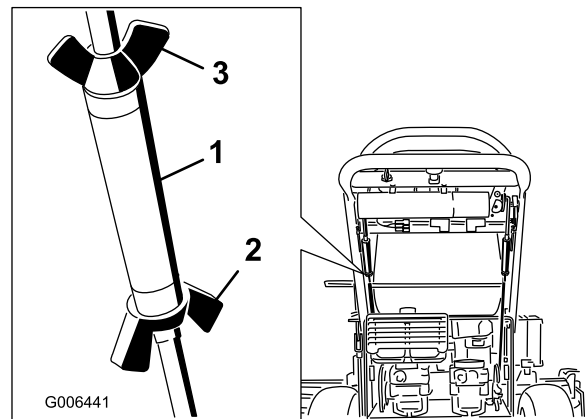

Figure 45
2. Loosen the wing nuts on the right control rod and rotate the turnbuckle in or out to ensure the right side control lever is centered in the neutral lock position. Secure the turnbuckle in position with the wing nuts (Figure 45).
3. Loosen the wing nuts on the left control rod and rotate the turnbuckle in or out to change the tracking. Secure the turnbuckle in position with the wing nuts (Figure 45).